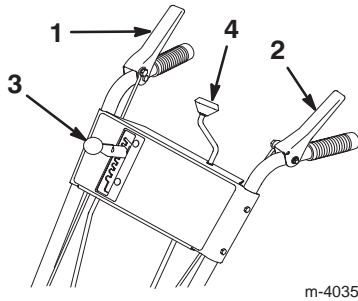

Figure 19
- **Auger/Impeller Drive Control Lever** (Fig. 19)—To engage both the auger and impeller, press the lever against the right handgrip. To disengage, release the lever.
- **Traction Control Lever** (Fig. 19)—To engage the traction (wheel drive), press the lever against the left handgrip. To stop the traction, release the lever.
- **Speed Selector** (Fig. 19)—This control has 7 positions: 5 forward and 2 reverse gears. To change speeds, move the speed selector to the desired position. The lever locks in a notch at each speed selection. The speed selector may shift with difficulty in heavy load conditions.
- **Discharge Chute Control** (Fig. 19)—Rotate the discharge chute control clockwise to move the discharge chute to the left; counterclockwise to move the chute to the right.
3. Release the auger/impeller drive control lever and the traction control lever (Fig. 19).
11. Move the speed selector (Fig. 19) to first gear, squeeze the traction control lever to the handgrip, and then release the traction control lever. If the snowthrower moves forward before engaging the traction drive control lever or after releasing the lever, see Adjusting the Traction Drive Belt on page 22.